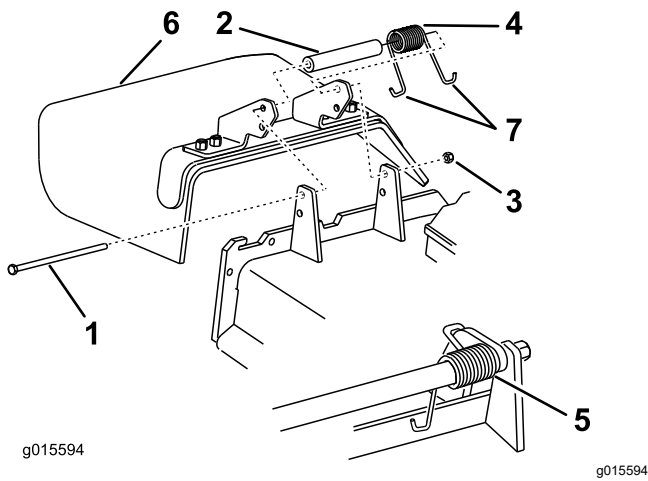

Figure 28
10. Install the discharge deflector using the parts shown in Figure 28.